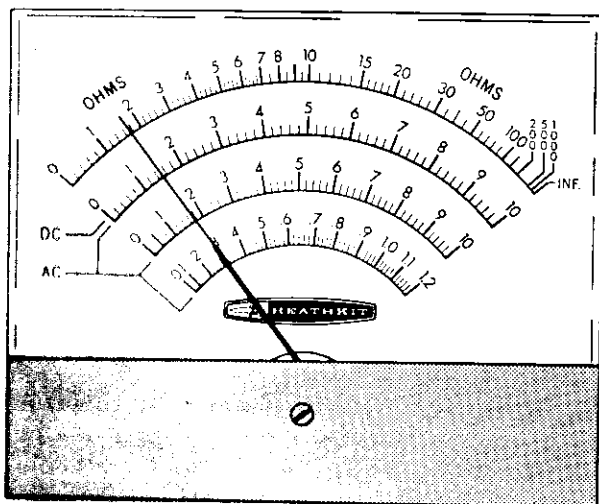

Figure 3
- ( ) Touch the tip of the DC probe (black) to the positive terminal of the 1.5 V battery and adjust the DC CAL control (on circuit board) for a 1.5 volt meter indication on the black scale, as shown in Figure 3. (If other DC voltages that are known to be more accurate are available, they may be used to further check the DC Calibration.)